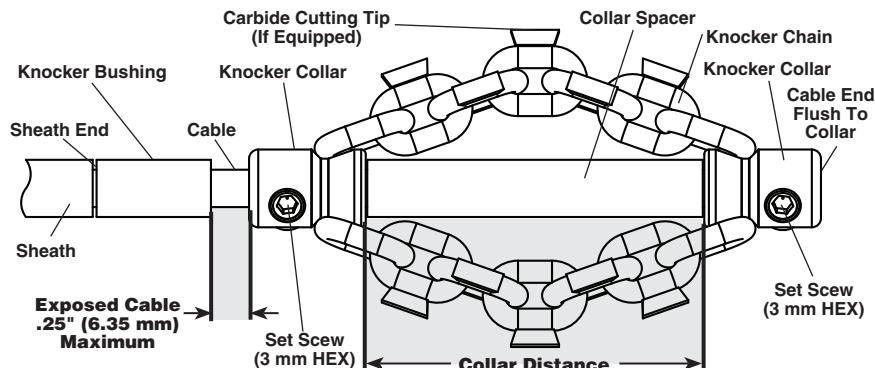

Figure 7 – Chain Knocker Installation/Adjustment
2. *Figure 7* shows a schematic of proper chain knocker installation and adjustment.
7. Test fit the chain knocker, knocker bushing and collar spacer on the cable as shown in *Figure 7*. Chains should be straight – do not assemble with chains twisted. To prevent excessive cable end wear, cable end should be flush with the end of the collar. Check length of exposed cable. To reduce the risk of cable flip over and damage, exposed cable cannot exceed ¼" (6 mm). If needed, cut a knocker bushing from sheath to limit exposed cable. **Always use a knocker bushing to reduce wear on the sheath end.**
8. With the chain knocker correctly installed on the cable as shown in *Figure 7*, use the supplied hex wrench to securely tighten the collar set screws. If the set screws are not secure, the chain knocker could slip and damage the cable or be lost down the drain.